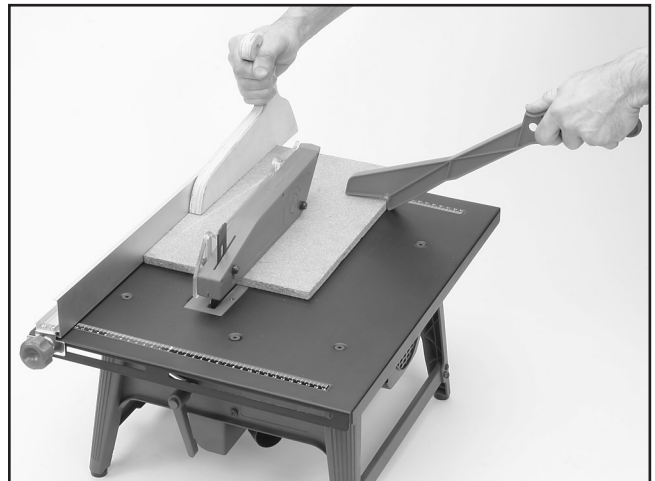

Figure 14. Typical ripping operation.
7. Keep the workpiece firmly pressed against the table and the fence, and feed it completely through the saw blade, as shown in **Figure 14**.